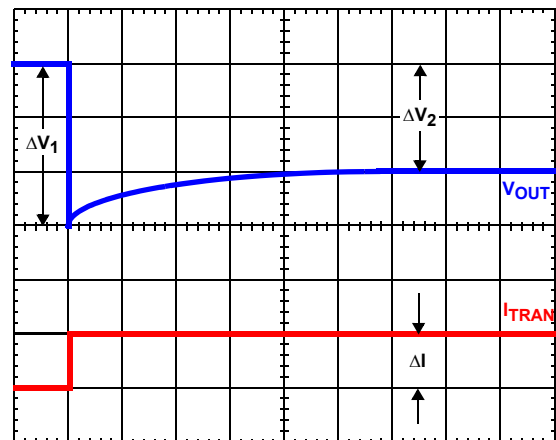

FIGURE 19. TIME CONSTANT MISMATCH BEHAVIOR
Due to errors in the inductance or DCR it may be necessary to adjust the value of R_1 and R_2 to match the time constants correctly. The effects of time constant mismatch can be seen in the form of droop overshoot or undershoot during the initial load transient spike, as shown in Figure 19. Follow the steps below to ensure the R-C and inductor L/DCR time constants are matched accurately.
2. Record ΔV_1 and ΔV_2 as shown in Figure 19.